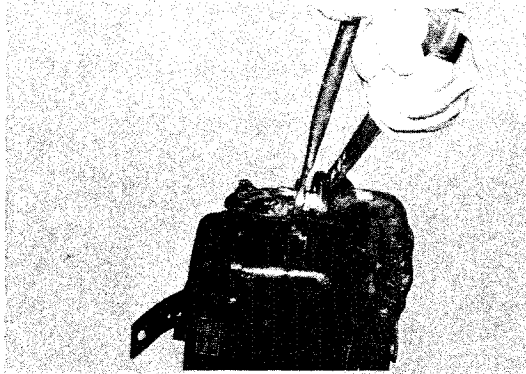

Fig. 60
- 7) Disconnect the inlet and outlet fittings of evaporator from the suction return and inlet tubes. See Fig. 60.